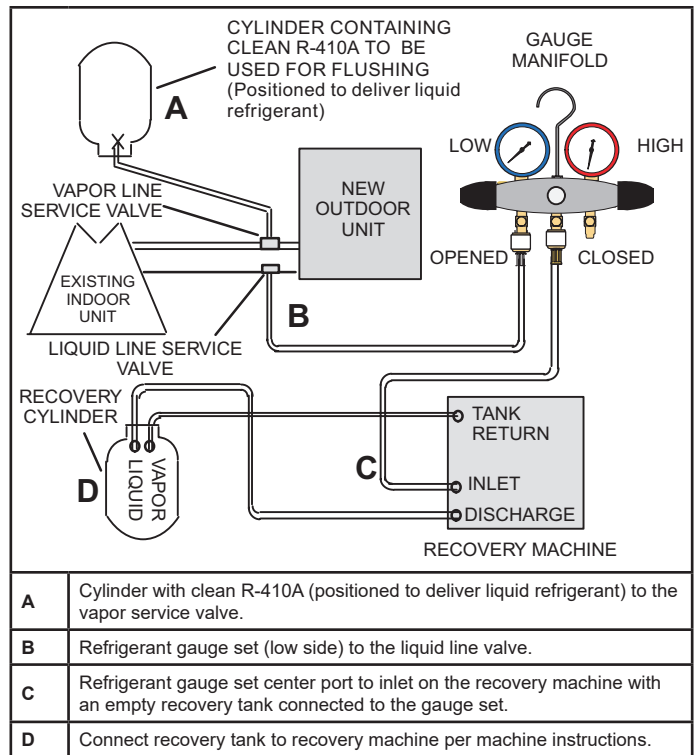

Figure 6.
1. Connect gauges and equipment as shown in Figure 6.